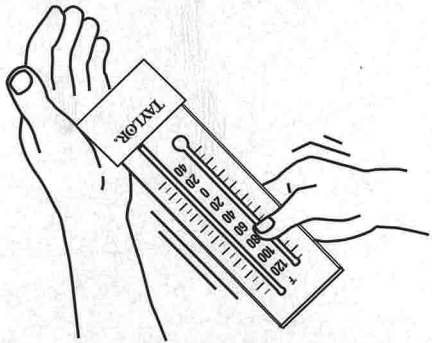

FIG. 2 REJOINING SEPARATED FLUID
1. Hold thermometer as shown in Fig. 2, supporting the coil of tubing.